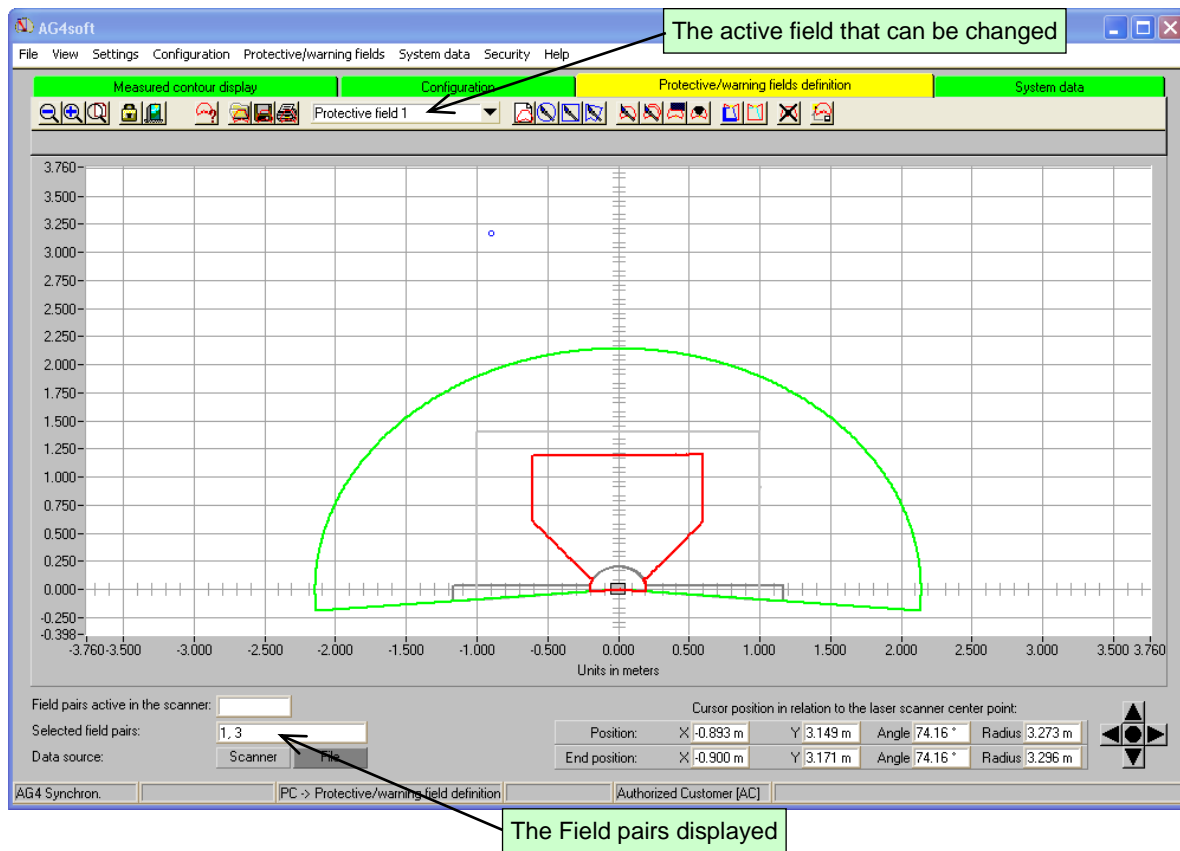

Figure 6. Protective and warning fields displayed
The selected pairs that are being displayed are field pair 1 (red & green) and field pair 3 (grey rectangles). See Select field pair window in the lower left corner of Figure 6.
**Figure 6. Elliptical Protective field 1** NOTE: During the field change operation, the X and Y values of the cursor position in the navigation area define the maximum area boundary dimensions of the short and long axes of the ellipse.